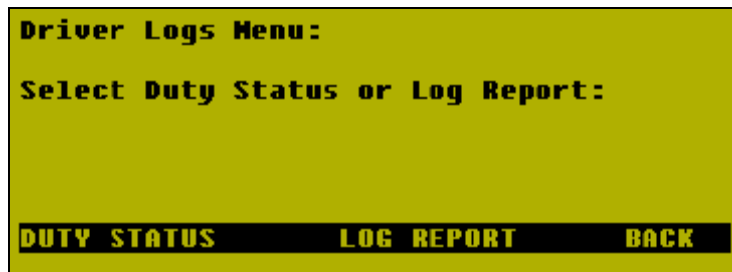
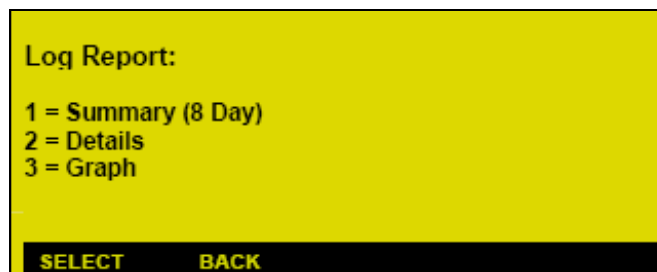

Figure 5: Driver Logs Menu
Figure 11: Log Reports Screen
1. From the **Startup** screen, press the **Log** soft key. The **Driver Logs** menu, shown in Figure 5, appears.
1. From the **Driver Logs** menu, shown in Figure 5, press the **Log Report** soft key. The Log Reports screen, shown in Figure 11, appears.
To return to the Log Reports screen, shown in Figure 11, press the **Back** soft key.